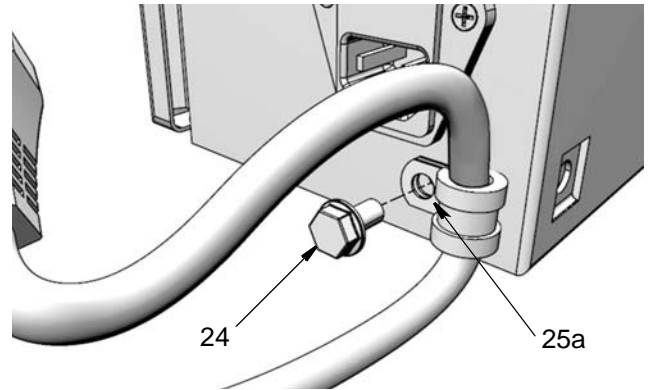

FIG. 23
5. Insert screw (24) through the two silver tabs (25a) on the cord clamp (FIG. 23). Then install screw through the installation hole in the enclosure.